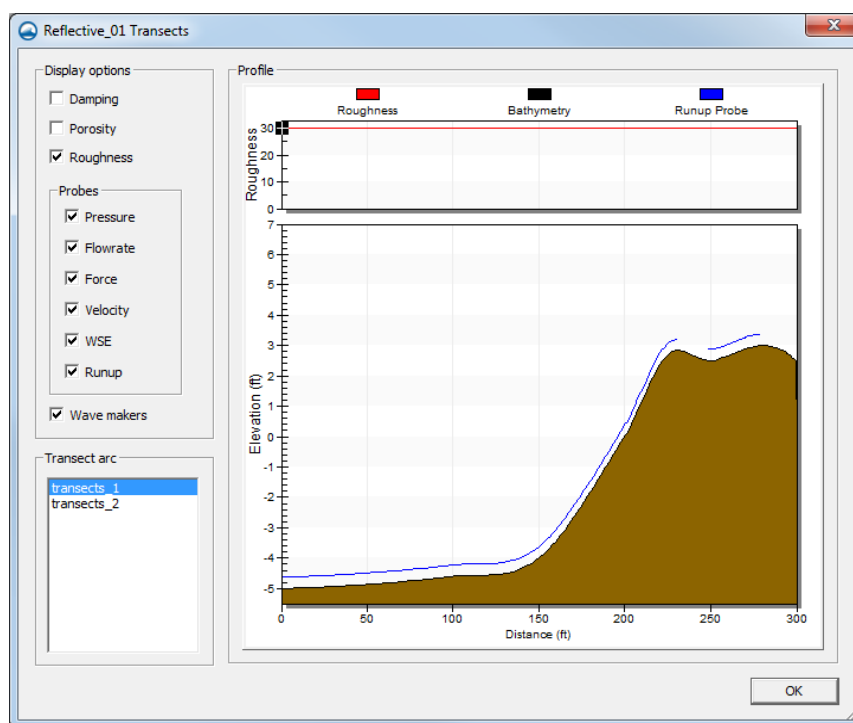

Figure 5 The Reflective_01 Transects dialog
3. Right-click on the “Reflective_01” simulation and select **View transects profile...** to bring up the *Reflective_01 Transects* dialog appears (Figure 5).